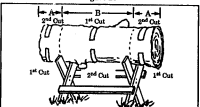

Figure 26
5. BUCKING USING A STAND (Figure 26)